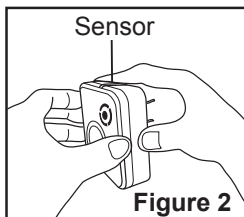

Figure 2
- Refer to **Figure 2**, use the right hand thumb to press the back cover, meanwhile use the left hand thumb to remove the front cover carefully.